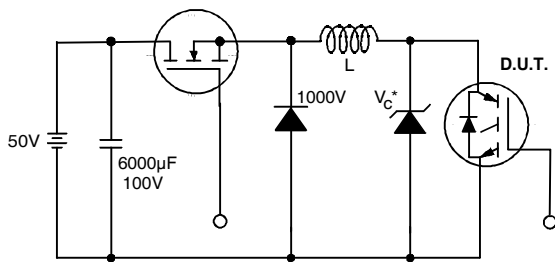

Figure 19.
- ② $V_{CC}=80\%(V_{CES})$, $V_{GE}=20V$, $L=10\mu H$, $R_G = 23\Omega$ (figure 19)
- ③ Pulse width $\leq 80\mu s$; duty factor $\leq 0.1\%$.
- ④ Pulse width $5.0\mu s$, single shot.